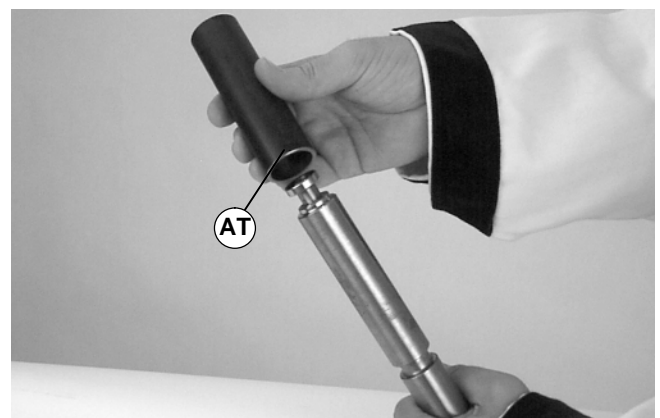

Figure 39
3. Slide the sleeve of tool (part # 450282) (AT of Figure 39) over bearing.